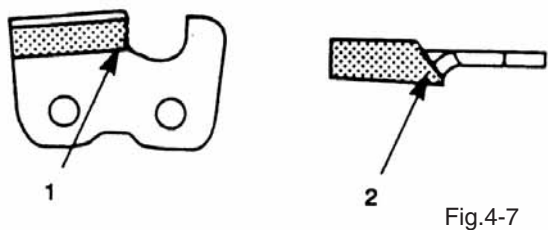

Fig.4-7
6) File enough to remove any damage to cutting edges (side plate (1) and top plate (2)) of cutter. (Fig. 4-7)